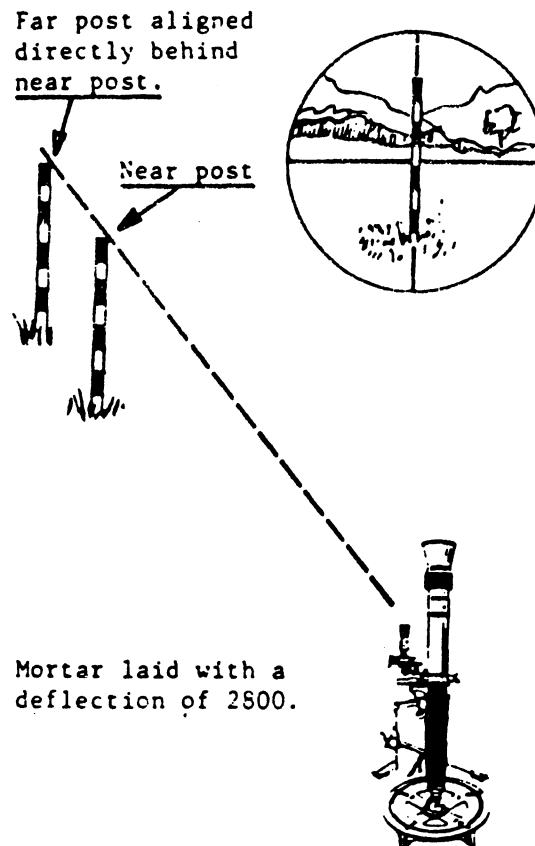

Fig 4-16. Aligned sight picture.
a. Remember that when aiming a mortar you align the vertical cross-hair of the sight with the left edge of your aiming point or post. This is shown in figure 4-16.